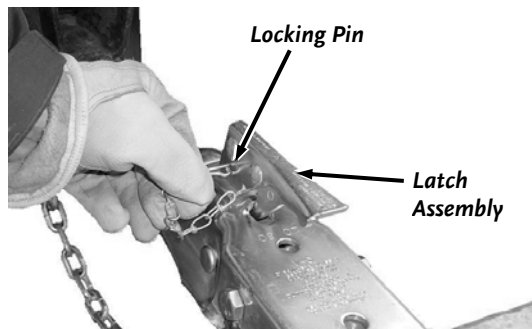

Figure 5
3. Insert the Locking Pin into the hole of the Latch Assembly to lock it in the closed position (**Figure 5**).